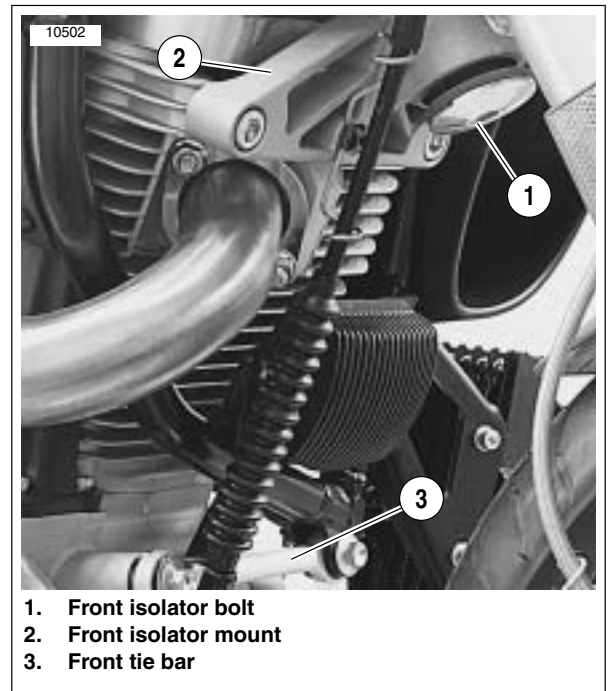

Figure 3-7. Front Isolator and Tie Bar Assemblies
22. See Figure 3-7. Remove front isolator bolt (1).
23. Remove front isolator mount (2) from engine.